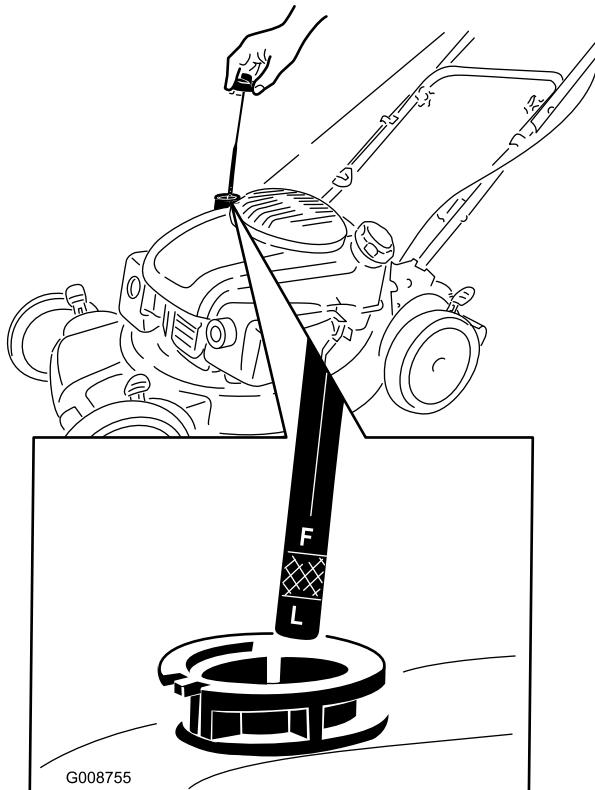

Figure 5
1. Remove the dipstick (Figure 5).
2. Slowly pour oil into the oil fill tube until the oil level reaches the Full line on the dipstick (Figure 5). Wait 3 minutes after adding oil to check the oil level with the dipstick. **Do not overfill.** (Max. fill: 22 oz. (0.65 l), type: 10W-30 or SAE 30 detergent oil with an API service classification of SJ or higher.)
**Note:** Each time you check the oil level, remove the dipstick and wipe it clean, insert it into the oil filler neck (but **do not** screw it in), then remove it again and check the level (Figure 5).